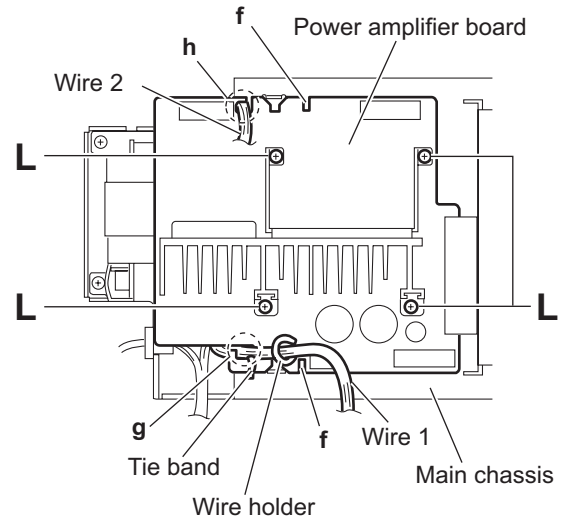

Fig.11
3.1.7 Removing the power amplifier board (See Fig.11)